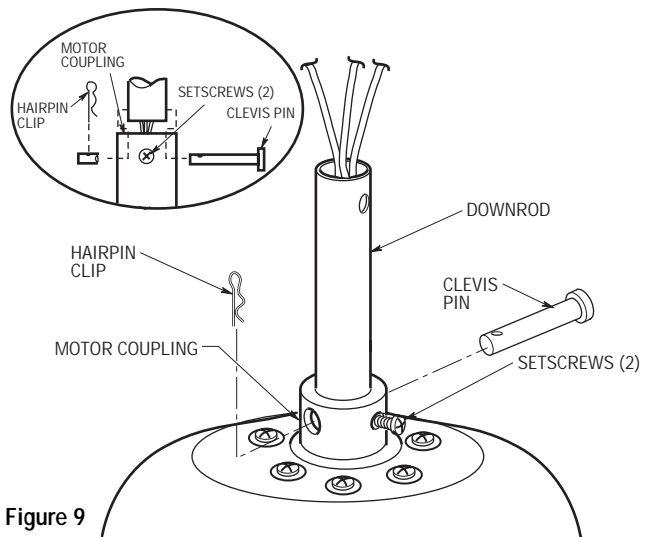
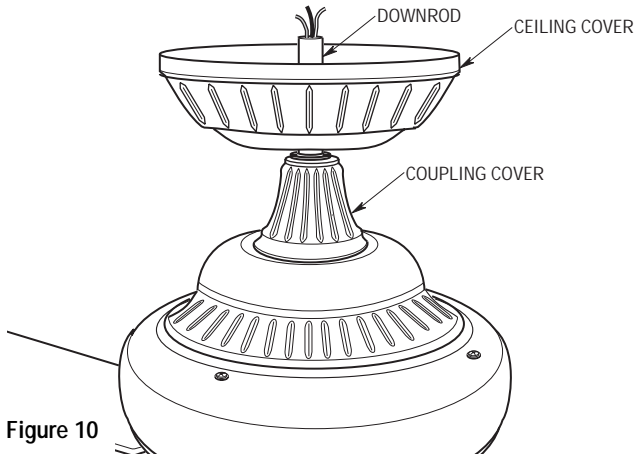

Figure 9
Figure 10
- 13. Unscrew the two setscrews (Figure 9) until they clear the inside of the motor coupling. Then separate, untwist and unkink the three 80" motor leads. Route the motor lead wires through the downrod. Align the clevis pin holes in the downrod with the holes in the motor coupling. Install the clevis pin and secure with the hairpin clip (Figure 10). The clevis pin must go through the holes in the motor coupling and the holes in the downrod. Be sure to push the straight leg of the hairpin clip through the hole near the end of the clevis pin until the curved portion of the hairpin clip snaps around the clevis pin. The hairpin clip must be properly installed to prevent the clevis pin from working loose. Pull on the downrod to make sure the clevis pin is properly installed.
**It is critical that the clevis pin in the motor coupling is properly installed and the setscrews securely tightened. Failure to verify that the pin and setscrews are properly installed (as shown in Figure 9) could result in the fan falling.**
- 14. Tighten the two setscrews (Figure 9) securely while pulling up on the downrod.
- 15. Make sure the grommet is properly installed in the coupling cover, then slide the coupling cover on the downrod until it rests on the motor housing. Place the ceiling cover over the downrod. Be sure that the ceiling cover and the coupling cover are both oriented correctly (Figure 10).